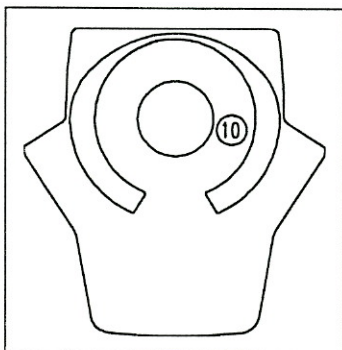

Figure 3. Service position.
- 2) Loosen the union (Fig. 3 (3)) and remove the filter glass (it is full of water!)